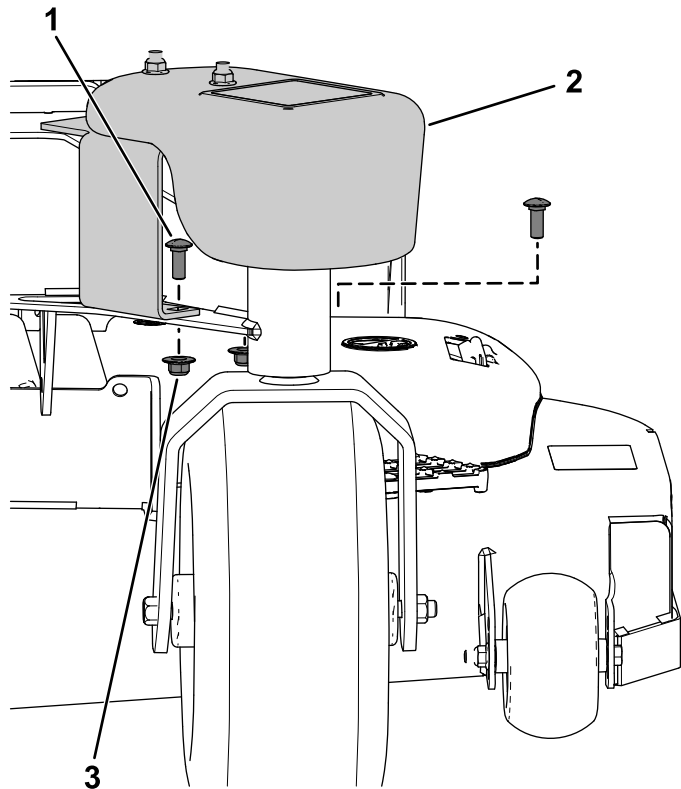

Figure 10
1. Secure the weight to the caster arm using 2 carriage bolts (3/8 x 1 inch) and 2 flange nuts (3/8 inch) as shown in Figure 10.